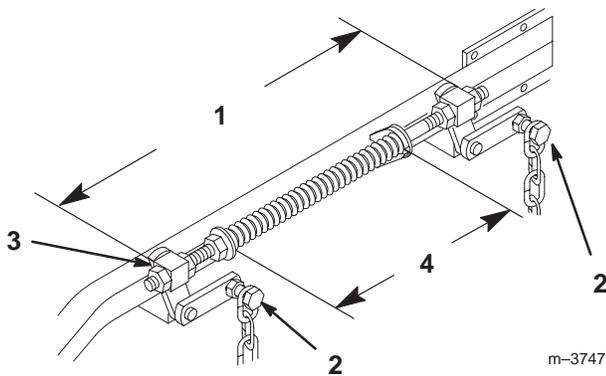

Figure 47
6. Loosen four (4) top chain bolts in slots. Check the length of the rod/swivel assemblies. Distance from outside of rear swivel to outside of front swivel should be 19-7/8" (505 mm) (Fig. 47). Make sure that all four swivels move freely in holes.
8. Lift up on four (4) top chain attachment bolts, in the slots, to take slack out of chains and tighten flange lock nuts. (Deck is still supported by two rear and one front blocks under mower.)
2. Springs are compressed so the distance between the two large washers should be 10-1/2" (267 mm) (Fig. 47).
3. Adjust by turning nut in front of each spring (Fig. 47). Clockwise will shorten spring; counter-clockwise will lengthen spring.